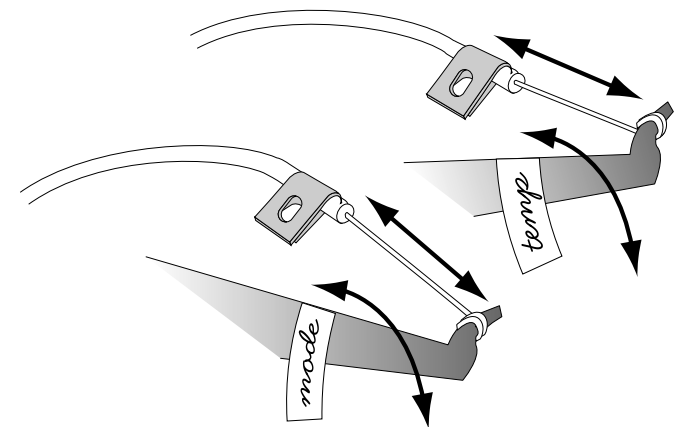

FIGURE 4
Step 4: Position the adjuster cables in a manner that the wire-ends can be secured to the appropriate lever ends (see figure 4). The most important aspect is that your OEM levers, which ever two you choose to use, move their entire possible distance of travel (when viewed from the front of the control head).